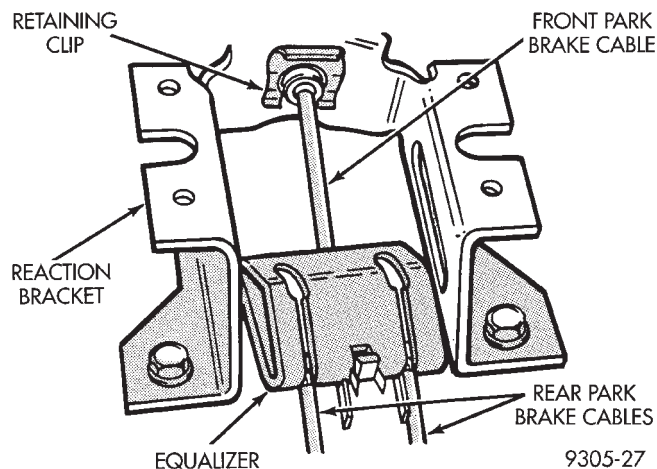

Fig. 10 Park Brake Cables Connected To Equalizer
(4) Connect the replacement park brake cable to the park brake cable equalizer (Fig. 10). **Note:** The equalizer can be moved rearward to allow connection of the rear cable to the equalizer.
(5) Install parking brake shoe assemblies on the rear disc brake adapter. See Removal And Installa-